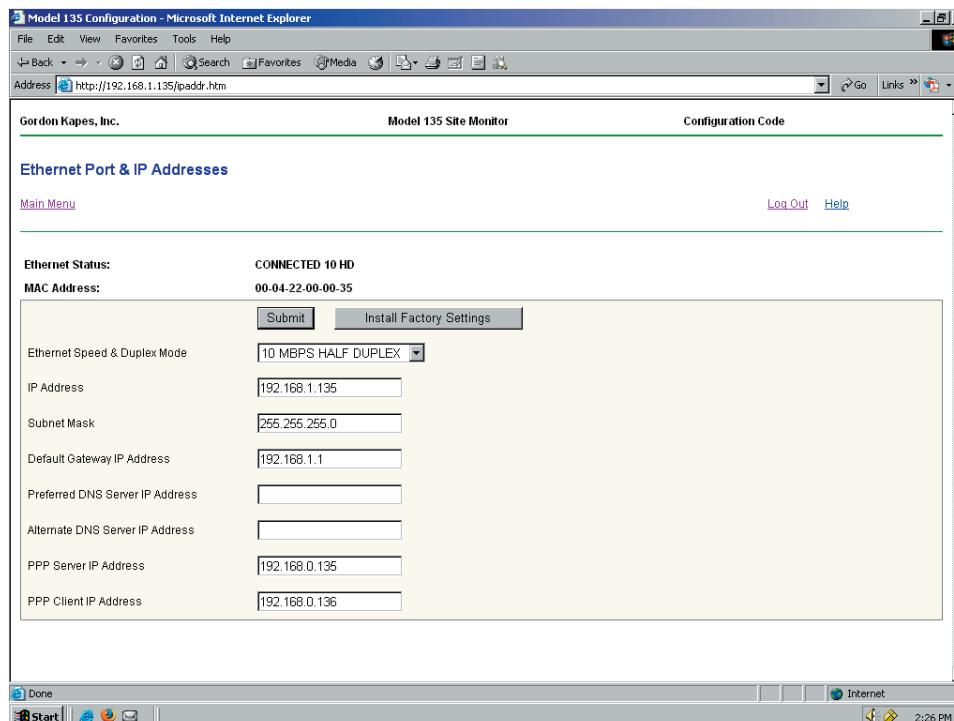

Figure 4-7. Model 135 Ethernet Port & IP Addresses Screen
Step 4: Under the Administrator Functions column, select/click the Ethernet Port & IP Addresses item. The Ethernet Port & IP Addresses setup screen will be displayed (Figure 4-7). Enter/type your IP Address, Subnet Mask, Default Gateway IP Address, Preferred DNS Server IP Address, and Alternate DNS Server IP Address. This information can be obtained from your IT support administrator.
Step 5: Upon completion of entering the Ethernet Port & IP Addresses, select/click the Submit button (Figure 4-7). When the refreshed screen appears, confirm/verify that your displayed addresses and gateway information are correct.
This will implement the entered changes on the Ethernet Port & IP Addresses Configuration Screen and start the Model 135 Application Code. The Model 135 Site Monitor will now be configured to be part of your LAN, responding to the new IP Address entered (Figure 4-7). Ethernet access to the Model 135 Site Monitor must now be from a computer that is set up to communicate over your LAN using the new IP address that was just assigned.